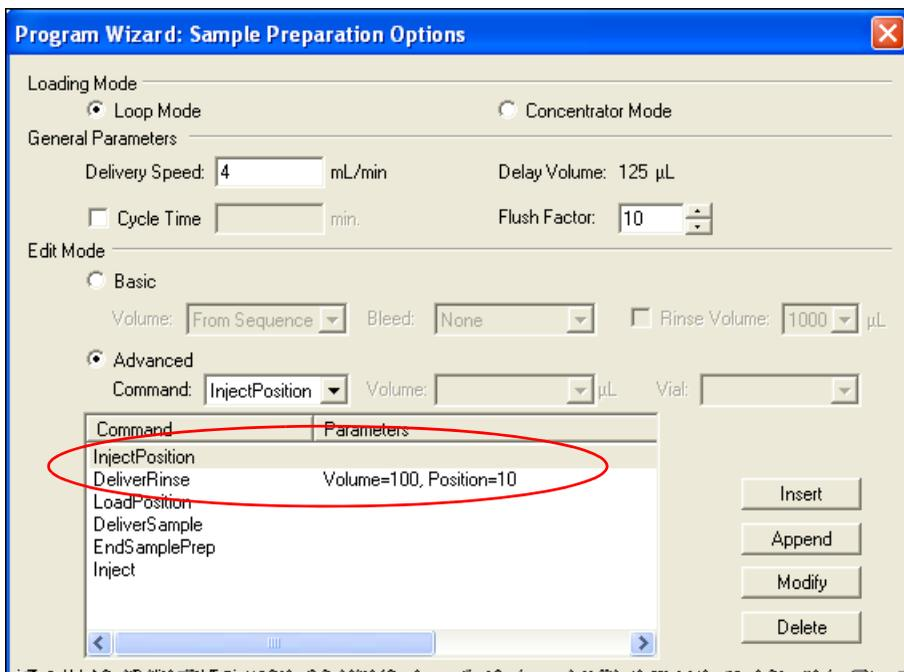

Figure 3-11. Sample Preparation Options: Deliver Rinse in Advanced Edit Mode (Chromeleon 6.8 Version Shown)
3. If you are using **Advanced Edit Mode**: Manually add the **InjectPosition** and **DeliverRinse** commands described above to the **Command/ Parameters** table (see Figure 3-11). With this mode, you can deliver the rinse from any vial.